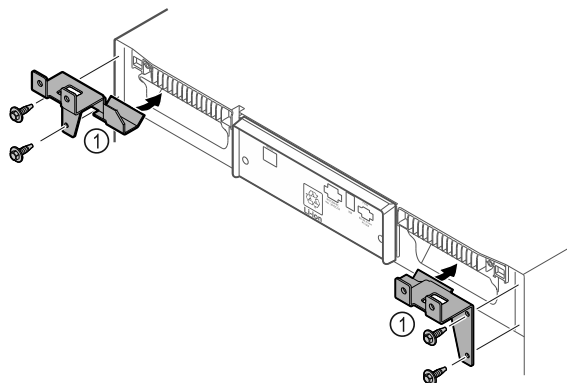

Fig. 66
- Fit the retaining parts Fig. 66 (1) to the device with self-tapping screws.